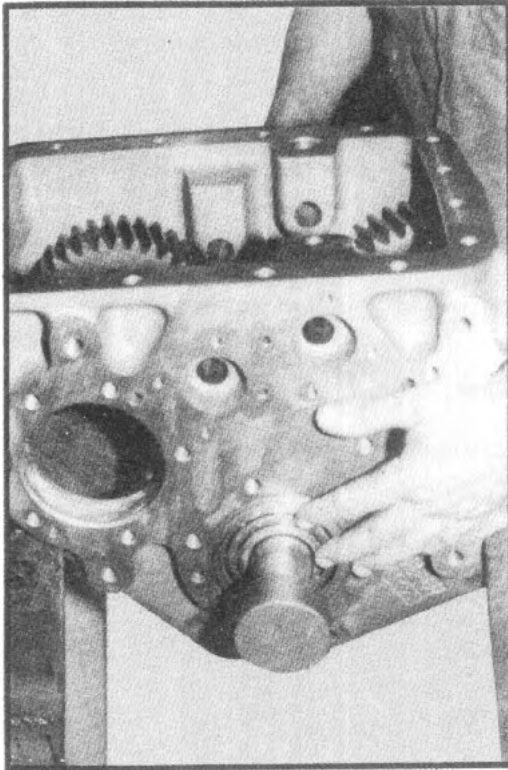

Fig. 14
3. Slide the intermediate shaft installation tool (Fabco part number 866 271, available from Fabco Automotive Corporation) through front bearing (See fig. 14) and place spacer washer (.060" wide) over end of tool and against inside face of bearing.